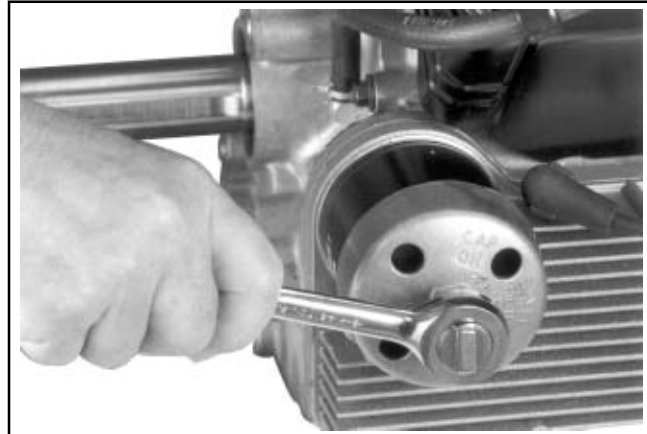

Figure 9-5. Removing Oil Filter.
3. Remove and discard the oil filter. See Figure 9-5.